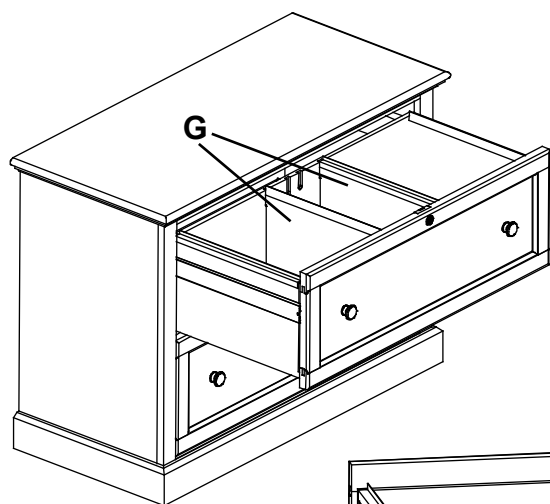

Fig. 8
8. The file drawers arrive configured to accommodate letter/letter sized files. But each drawer has the flexibility to be configured as letter/letter, letter/legal or legal/legal. To set up a section to hold legal files, remove a drawer. Remove one #8 x 1-5/8" Black Screw (S) from the drawer back and one from the bottom. Move the Drawer Divider (G) to the center slot. Attach the Divider in place with two #8 x 1-5/8" Black Screws (S). See Figures 8, 8a and 8b. Repeat for as many sections as you need.